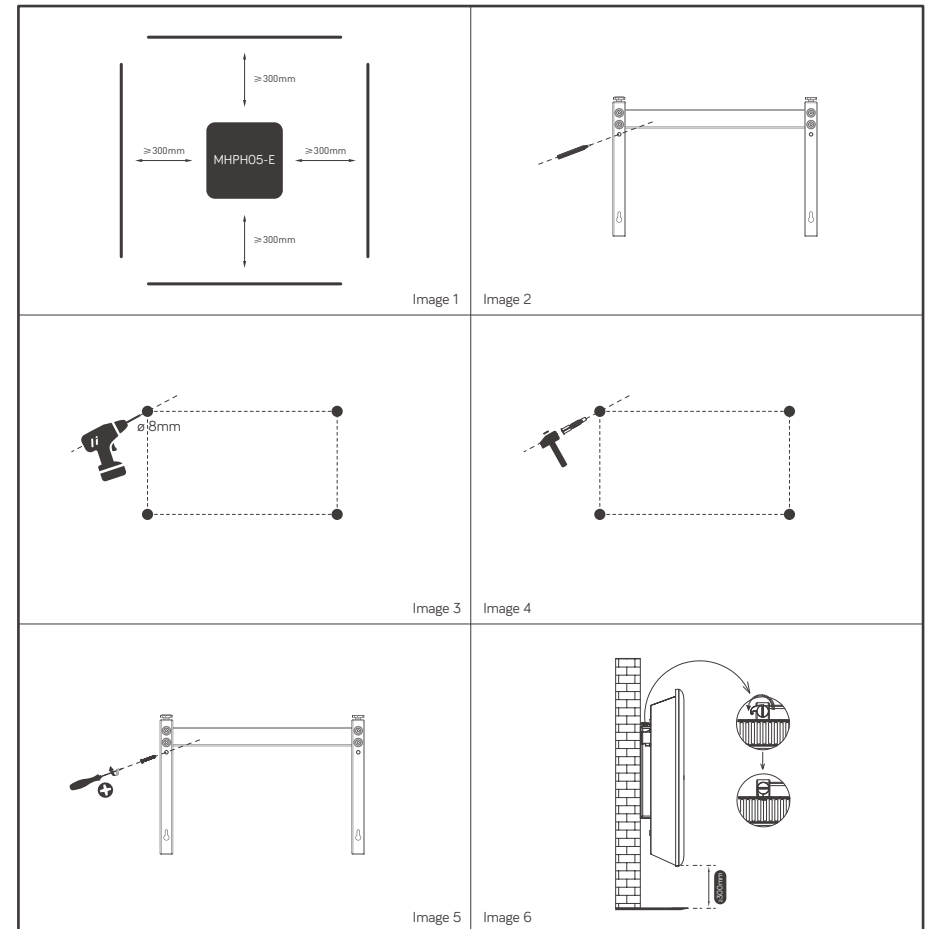

Figure 1
- Using the hanging bracket as a template, place the hanging bracket level against the wall as a guide ruler (please make sure the holes are parallel level), use a marker pen to mark the hole position. Image 2 on Figure 1 above.
- Drill holes on the wall with Ø8mm drill bit. Image 3 on Figure 1 above.
- Insert the plastic wall plugs. Image 4 on Figure 1 above.
- Securely fasten the hanging bracket to the wall with the screws provided. Make sure the hanging bracket is in the correct direction. Image 5 on Figure 1 above.
- When the heater is attached to the hanging bracket, secure into place by turning the two plastic securing grips. Image 6 on Figure 1 above.
- P1 (Figure 1) is a preset programme Monday-Sunday. See image below for P1 preset programme which shows the unit settings in a 24hr period which will repeat over a 7 day period. (The image below (Figure 1) is just for illustration purposes only and not shown on the LED display.)